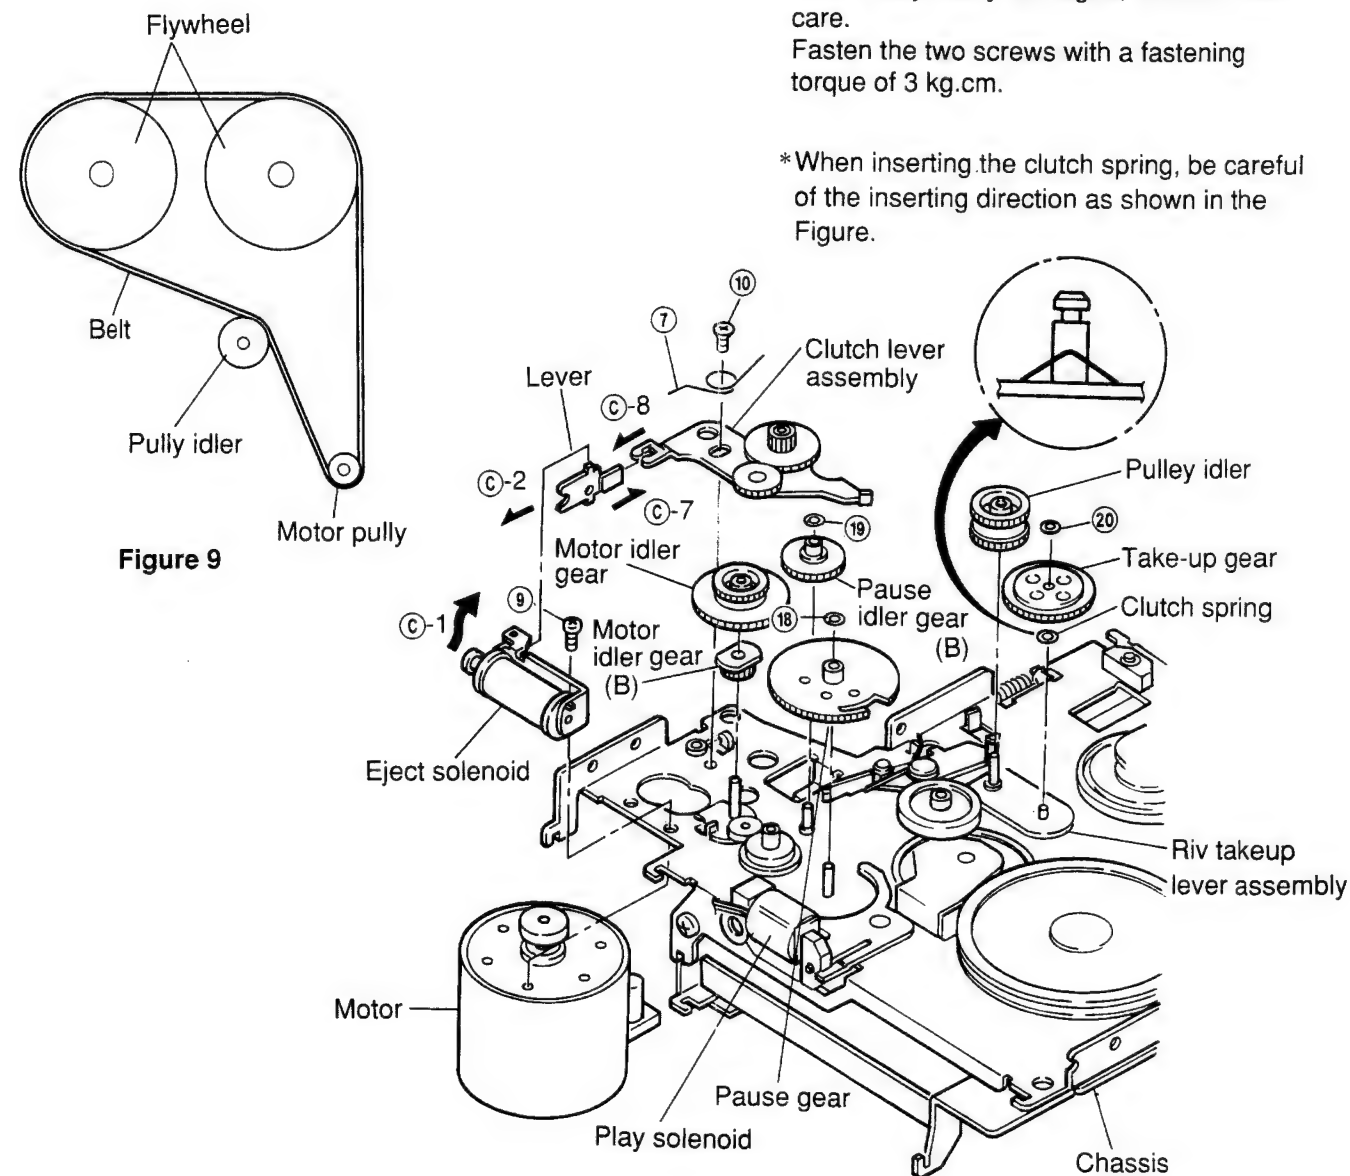

Figure 10
- (1) After removing the belt, remove spring ⑦ as shown in Figure 10.
- (3) Remove two screws ⑨ and ⑩, and remove the motor, taking care not to damage the motor idler gear. (Refer to Figure 10.)
- (4) Mount the new motor following the removal steps in the reverse order.
- (2) Remove screw ⑨ and remove the play solenoid as shown in Figure 10.
- (3) Align position ㉑-1 of the new solenoid with position ㉑-2 of the lever and fasten the screw as shown in Figure 10.
- (4) Lead the wire through the tube and solder it.